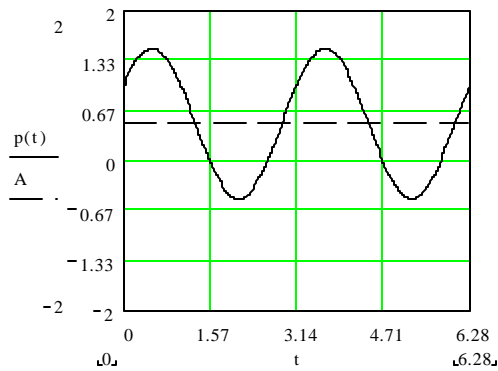

Figure 1a
- Top Figure 1a – Load at unity power factor.